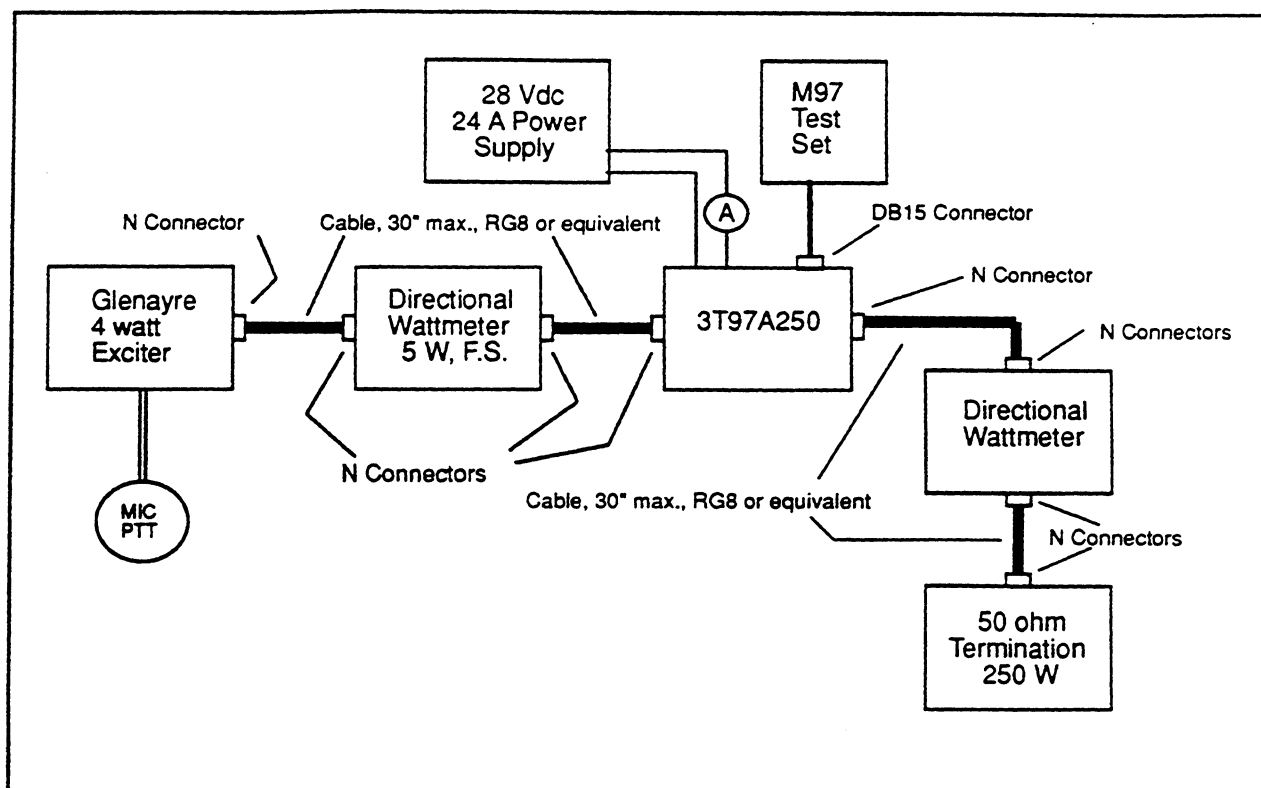

Figure 6-3 : Power Amplifier Logic Alignment
1. Set up the exciter, 3T97A250 RF power amplifier, and test equipment as shown in Figure 6-3.